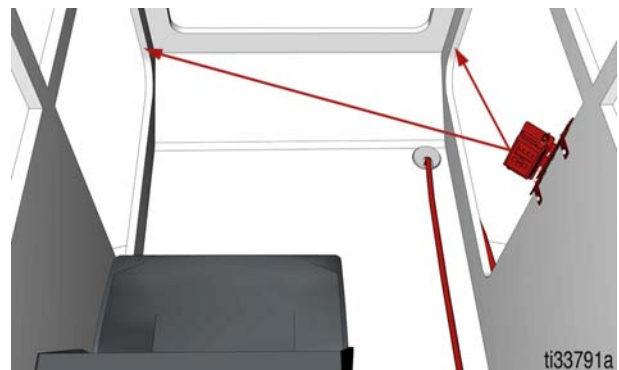

FIG. 19
3. Install the bracket inside the cab using existing holes in the cab using the hardware provided in the kit (FIG. 19).